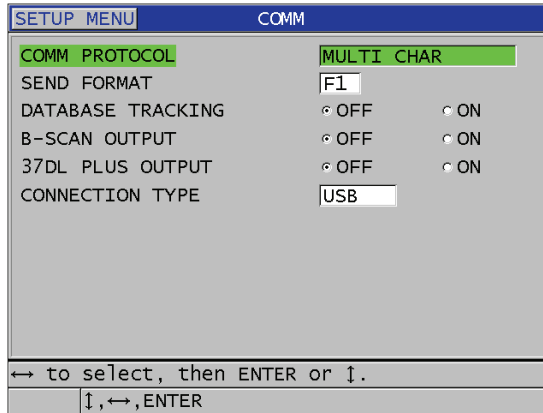

Figure 9-3 Changing the communication parameters
3. In the **COMM** screen (see Figure 9-3 on page 128):